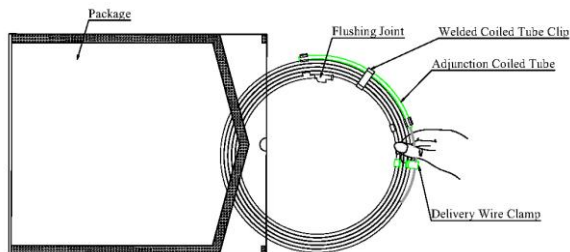

Figure 3. Inspect the coiled tube
- Carefully inspect the product and ensure there is no damage (Figure 3);